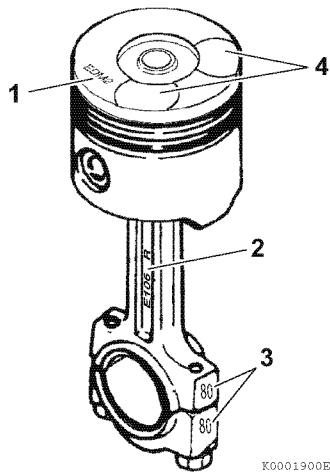

Figure 6-96
- The piston and connecting rod must be installed with the correct orientation. When installed correctly, the identification mark (1, **Figure 6-96**) stamped into the top of the piston will face the open side of the crankcase. The connecting rod match marks (3, **Figure 6-96**) and the piston valve pockets will face the injection pump side of the engine.
- Carefully install the piston and rod assembly. The identification marks stamped into the top of the piston (1, **Figure 6-96**) and connecting rod beam (2, **Figure 6-96**) will be facing the open side of the crankcase. The connecting rod match marks (3, **Figure 6-96**) and the piston valve pockets (4, **Figure 6-96**) will face the injection pump side of the engine.